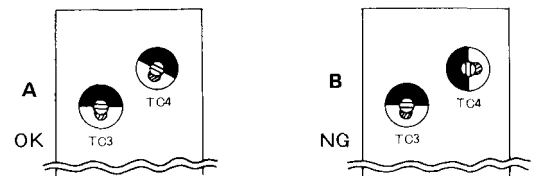

Fig. 12
- (2) With TC3 and TC4 in the final unit set to the positions shown in Fig. 12(A), fine adjust so that a maximum power is obtained.
NOTE: Care should be taken in adjustment because TC3 and TC4 are also tuned in the positions shown in Fig. 12(B).